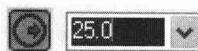

Fig.1-12 Hard-locked
③ Hard-locked (shown in Fig.1-12): The data is locked until you manually unlock the field.
- ③ 硬锁定(如图 1-12 所示): 数据锁定直到手工解锁。